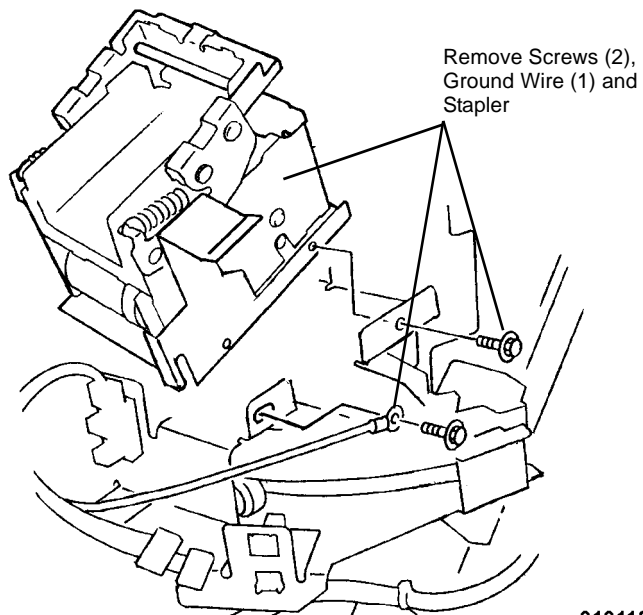

Figure 2 Removing Stapler Assembly
3. Remove Stapler Assembly (Figure 2).